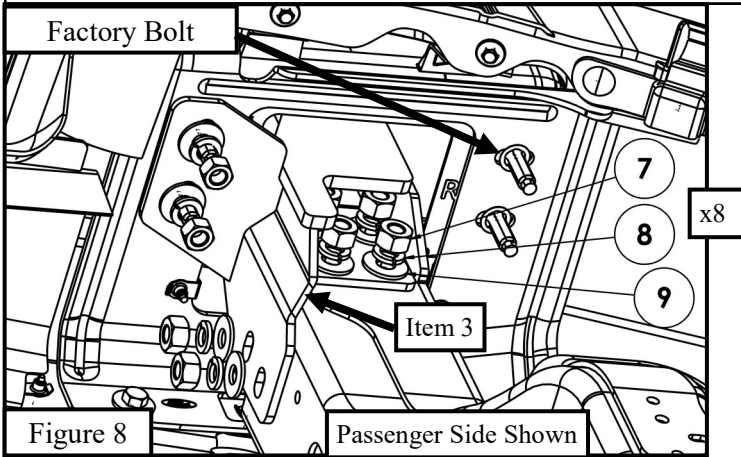

Figure 8
5. Remove bumper by removing (4) bolts on both sides of the vehicle near the front tires and make sure to disconnect any electrical wires. **See Figures 8 and 9.**
- Locate (1) Lower Support Bracket (Item 19) and insert through the newly trimmed slots and loosely secure onto vehicle frame using the factory hardware. See Figure 8.